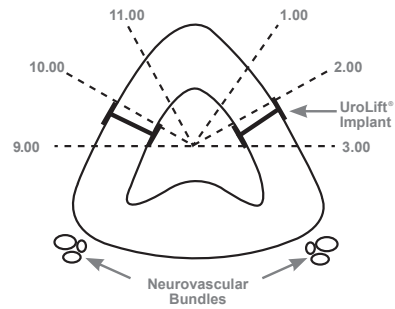

Figure 3
- 2.4. To avoid external prostatic structures (e.g., neurovascular bundle), UroLift® Implants should be implanted anterior to the 3 and 9 o'clock positions (**Figure 3**).
- 2.5. Pre-determine treatment site by orienting the delivery device tip in a lateral direction, typically either 2-3 o'clock or 9-10 o'clock, (**Figure 3**) in the bladder then slowly moving the device distally to visualize the prostatic fossa from the bladder neck to the verumontanum.